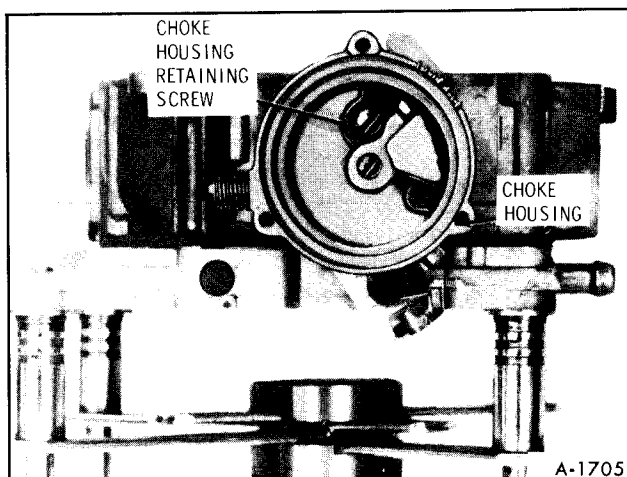

Figure 20—Choke Housing Attachment
2. Remove choke housing assembly from float bowl by removing retaining screw and washer inside the choke housing (figure 20). The complete choke assembly can be removed from the float bowl by sliding outward. Remove plastic tube seal from choke housing. Remove lower choke lever from inside float bowl cavity by inverting bowl.